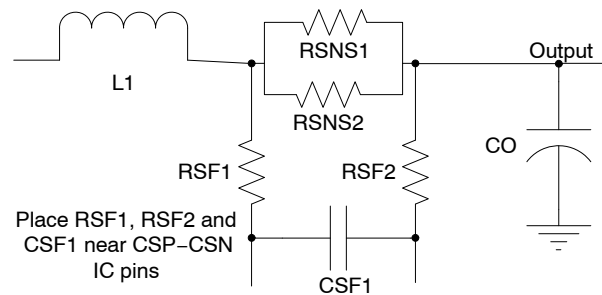

Figure 23. Current Sense Resistor π -Filter
- An optional R-C-R π -filter on the IC's CSP/CSN pins (Figure 23) is sometimes used to filter differential and common mode noise.